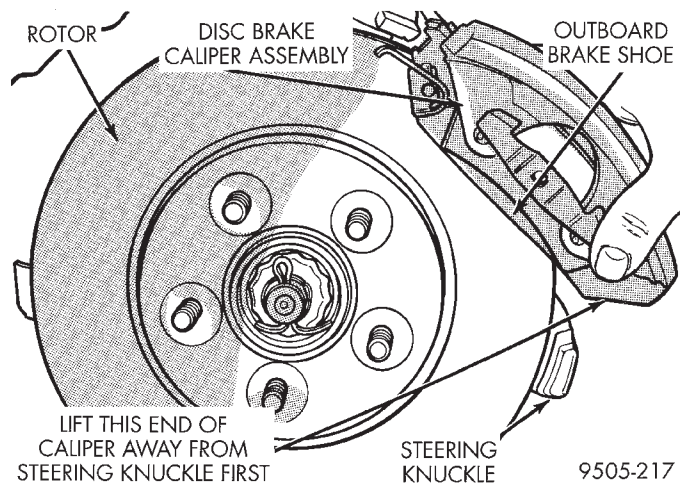

Fig. 45 Removing / Installing Brake Caliper
(4) Remove brake caliper from steering knuckle, by first rotating bottom end of caliper away from steering knuckle. Then slide top of caliper down from the machined abutment on steering knuckle (Fig. 45).
(3) Carefully position caliper and brake shoe assemblies over brake rotor by first hooking top of brake shoes on the machined abutment on upper steering knuckle (Fig. 45). Then rotate the bottom of the brake caliper into position on the steering knuckle. **Make sure that caliper guide pin bolts, bushings and sleeves are clear of the steering knuckle bosses.**